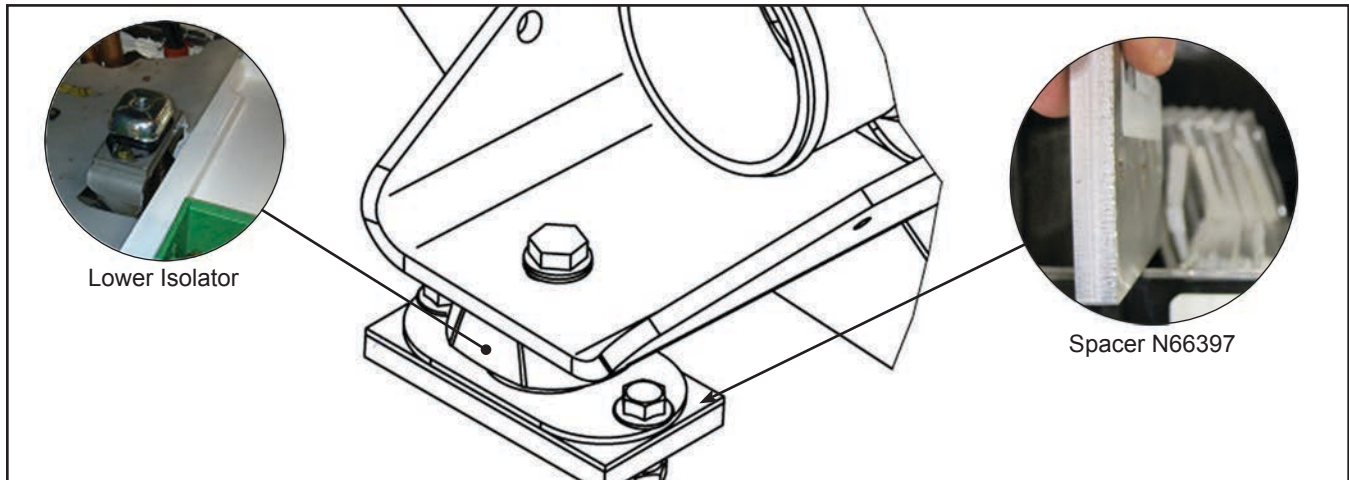

Figure 7 - Installation of Spacers N66397 on the Lower Supports
- 1.19. Install a 3/8" spacer N66397 and new isolator N43343 using N16891 bolts and retained hardware on both rear supports of the structure. Apply Loctite 242 thread locker or the equivalent on the bolts. Do not tighten the bolts. See Figure 7.